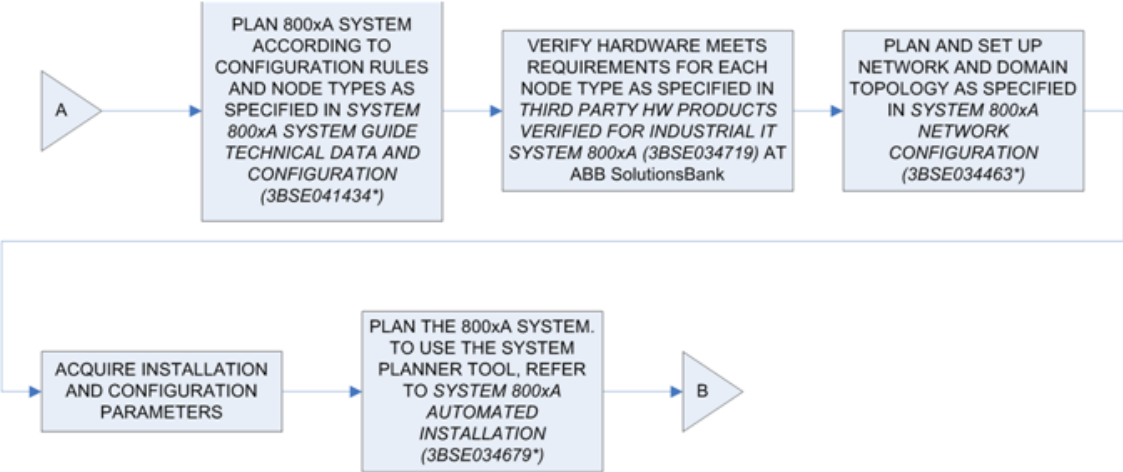

Figure 2. Installation Sequence Flow Chart A (Planning and Preparation)
- Planning and preparation (Figure 2).